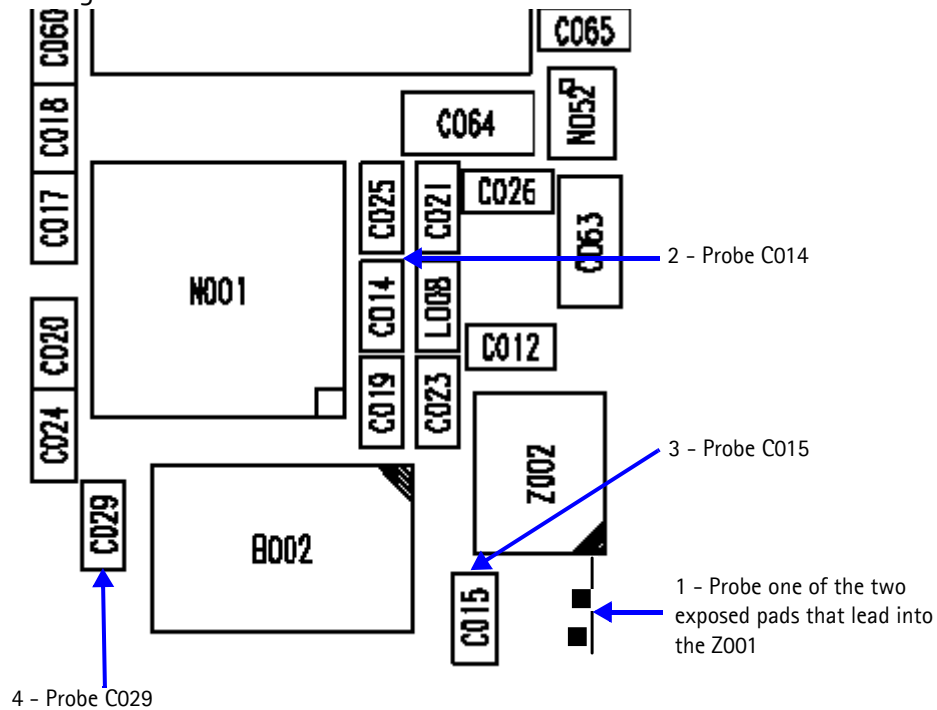

Figure 9: GPS RF probing measurements
- Measure probe points with either a FET probe and a spectrum analyzer set at center frequency 1575.25MHz, Span = 500kHz, or a voltmeter as specified. See Table 1 for measurement information that correspond to the test points in Figure 9.
Table 1 defines the test points shown in Figure 9.